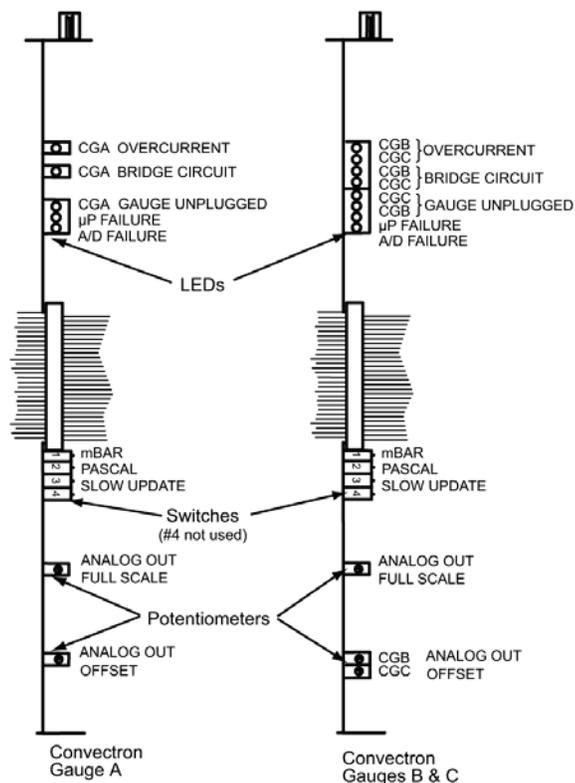

Figure 2-1 Convectron Modules, Top View (Controller Cover Removed)
2. Remove the top cover and locate the Convectron Module. See Figure 2-1